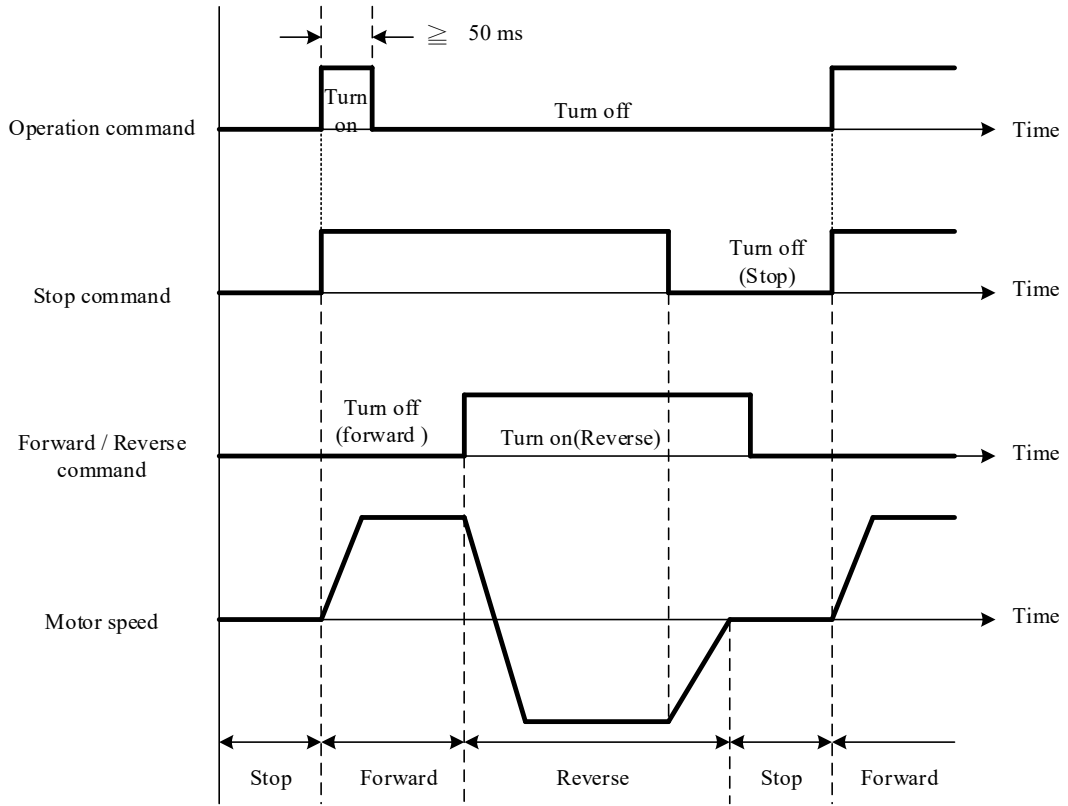

Figure 4.3.3 3-wire operation program
- The S1 terminal must remain conducted for 50 milliseconds or more for the operation command to self-hold. Please refer to Figure 4.3.3. 3-wire operation program.